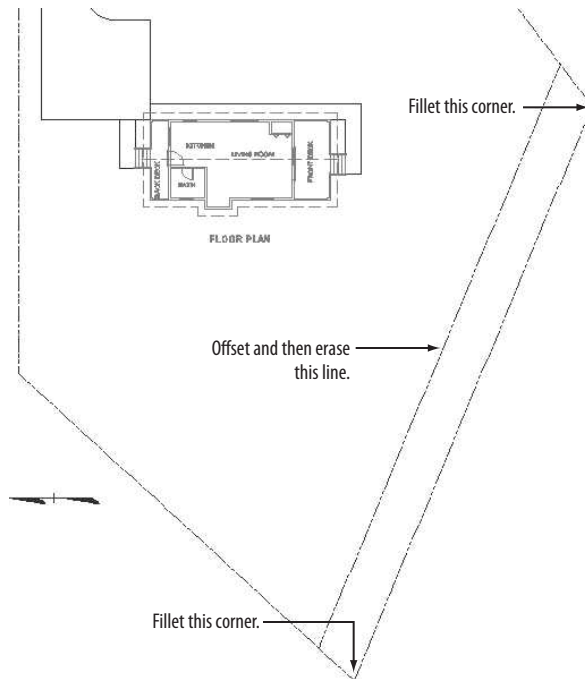

FIGURE 13.26: The new property line created in the externally referenced site plan
7. Make the \$0\$C-PROP-LINE layer current, and then offset the lower-right diagonal property line 10'-0" (3048) to the right (see Figure 13.26).
9. Erase the original line (see Figure 13.26).